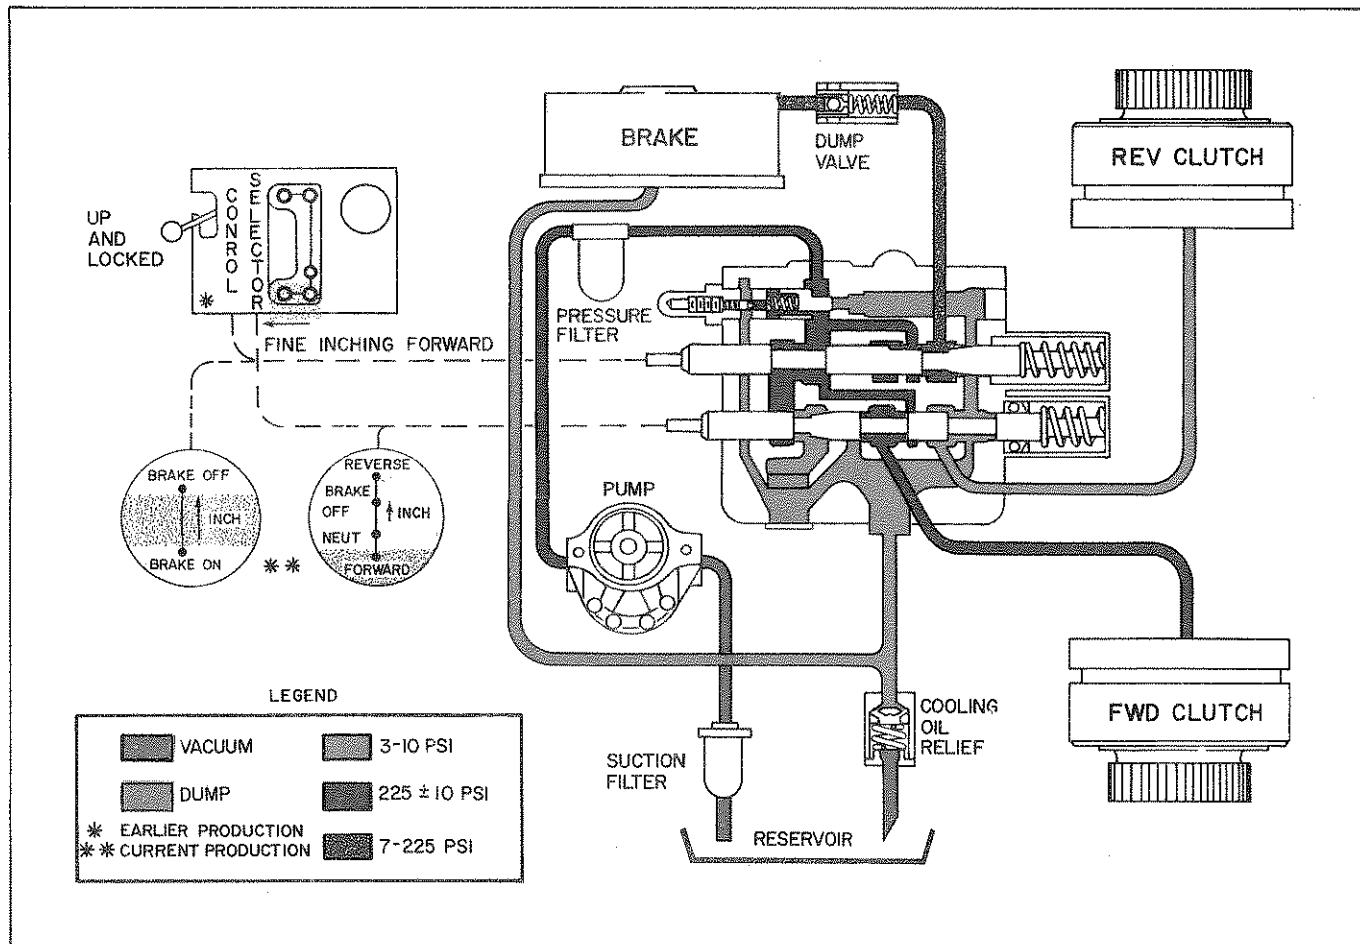

Figure 1-16. Hydraulic Flow Diagram, Forward Inching, Brake Slipping
1-29. HYDRAULIC SYSTEM IN FORWARD INCHING, BRAKE SLIPPING. (See Figure 1-16.) On Earlier Production Handling Gear, the system is placed in FORWARD INCHING OPERATION by: (1) Moving the Control Lever Up and locking it in place and (2) Moving the Selector Lever toward the front of the handlever housing. On Current Production Handling Gear, this is accomplished by: (1) Holding the Selector Lever in the FORWARD position and (2) Moving the Inching Lever toward the BRAKE OFF position. When the Selector Lever (earlier production) is moved toward the front of the handlever housing or the Inching